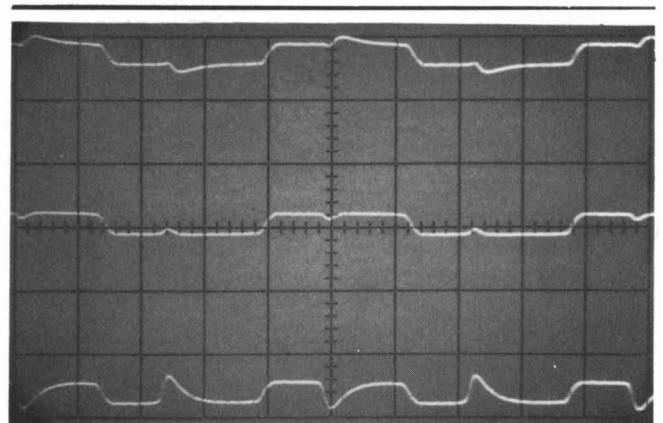

Figure 5-8. Scan Balance (Top: Unbalanced Middle: Balanced, Bottom: Unbalanced)
k. Adjust Scan Balance C33 for best balance as viewed on Test Oscilloscope (see figure 5-8).